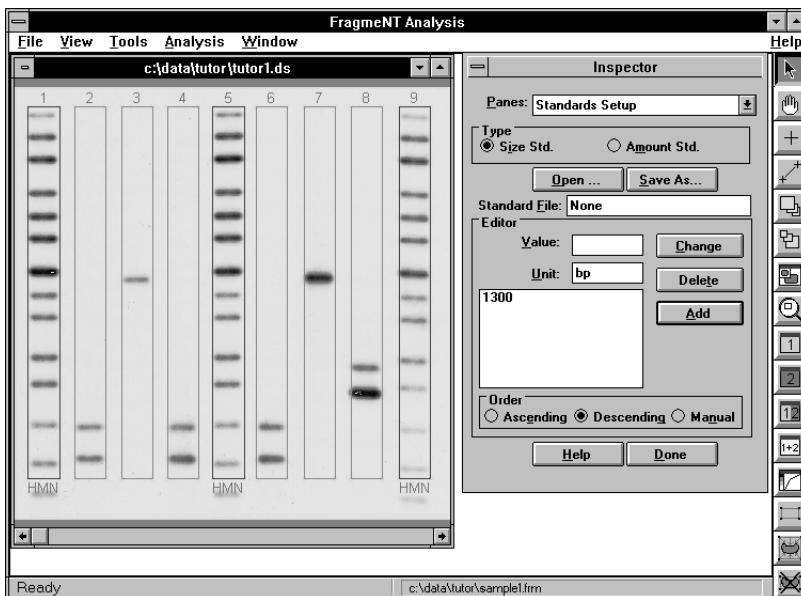

Figure 3-10. Creating a standards file.
The Standards Setup inspector (figure 3-10) allows you to create, load, or modify a standards file. The standards file provides the information the software uses to compute the unknowns.
2. Click the **Value** box, type 1300, and then click **Add** (or press **ENTER**). The value, 1300, appears in the list of values box (figure 3-10).